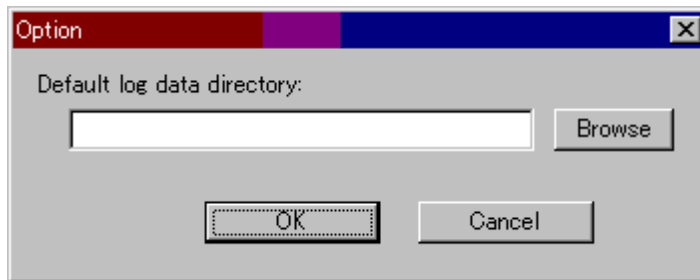

Figure 5.15 Option Panel
1. On the GraphTool Main panel, select the **Option** menu, and then select **Default Directory** to open the Option panel (see Figure 5.15).